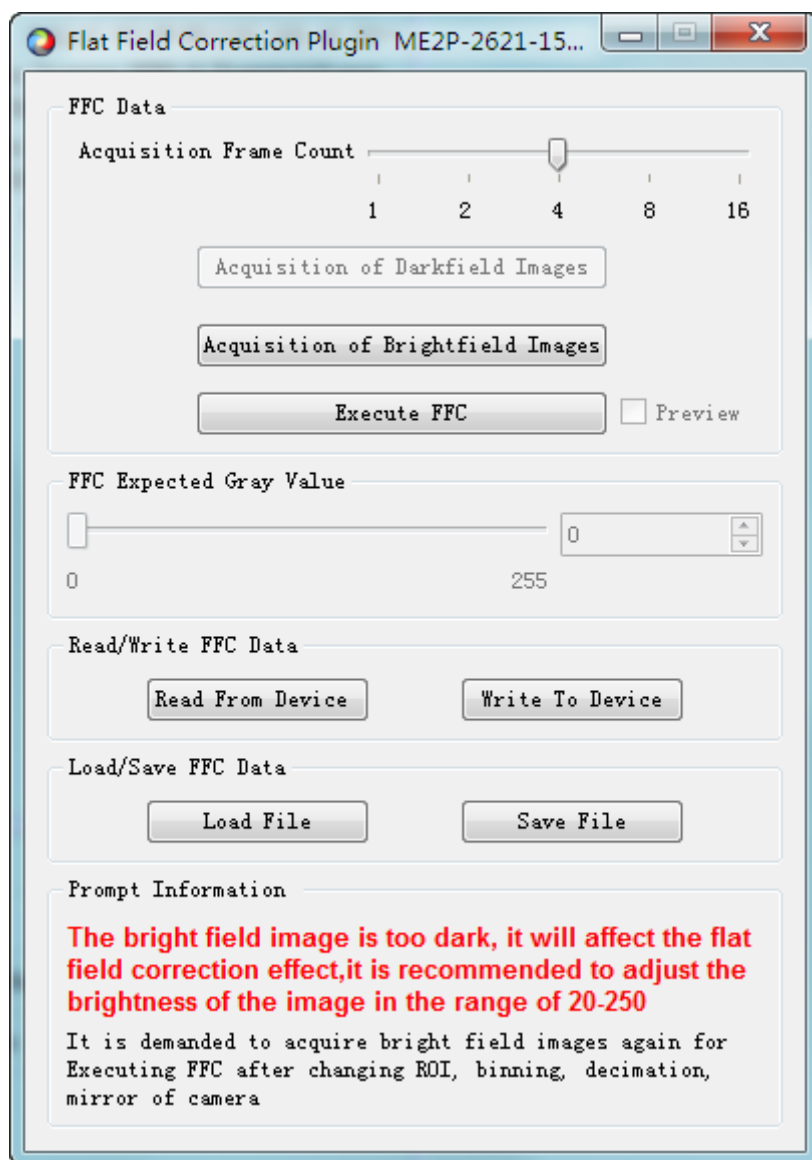

Figure 9-8 The bright field image is too dark
- 4) If the brightness of the acquired bright field image is less than 20, it will prompt in the prompt box that the acquired bright field image will affect the effect of FFC, as shown in Figure 9-8. In this case, it is recommended to adjust the image brightness in the range of 20~ 250, and then reacquiring the bright field images.